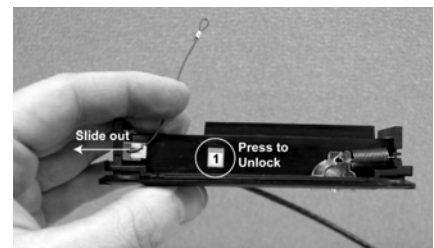

Figure 16
- B. Looking at the top of the PRNDL assembly, push downward on the white plastic square marked 1 in figure 16 and slide the cable assembly from the side of the PRNDL assembly.